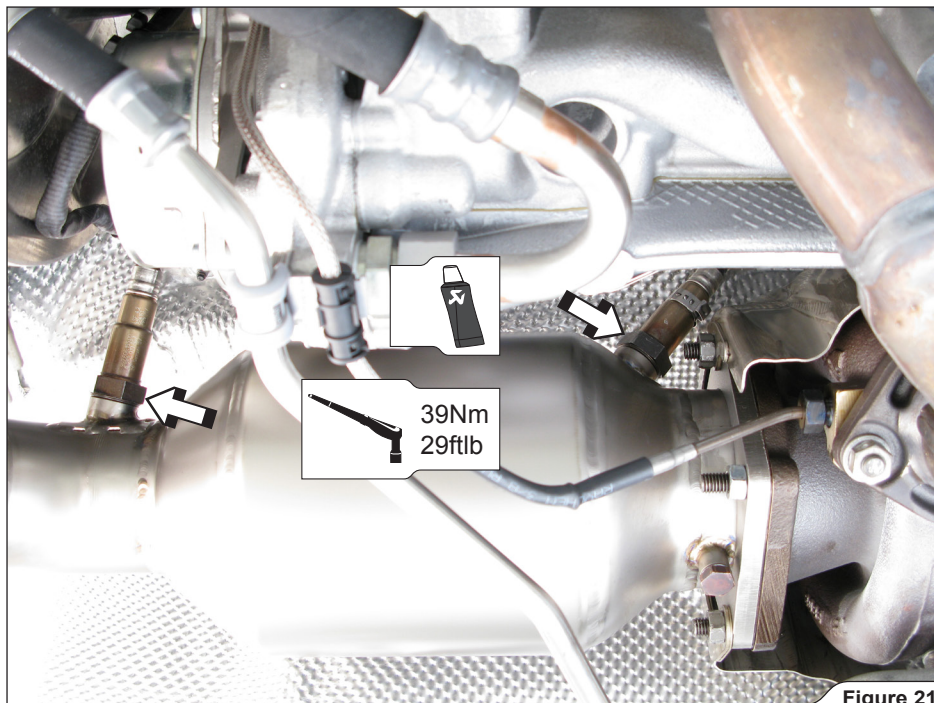

Figure 21
6. For Slip-On Race, Evolution Race and Upgrade Kit1/2: install and tighten all four lambda sensors on both sides of the vehicle (Figure 21).